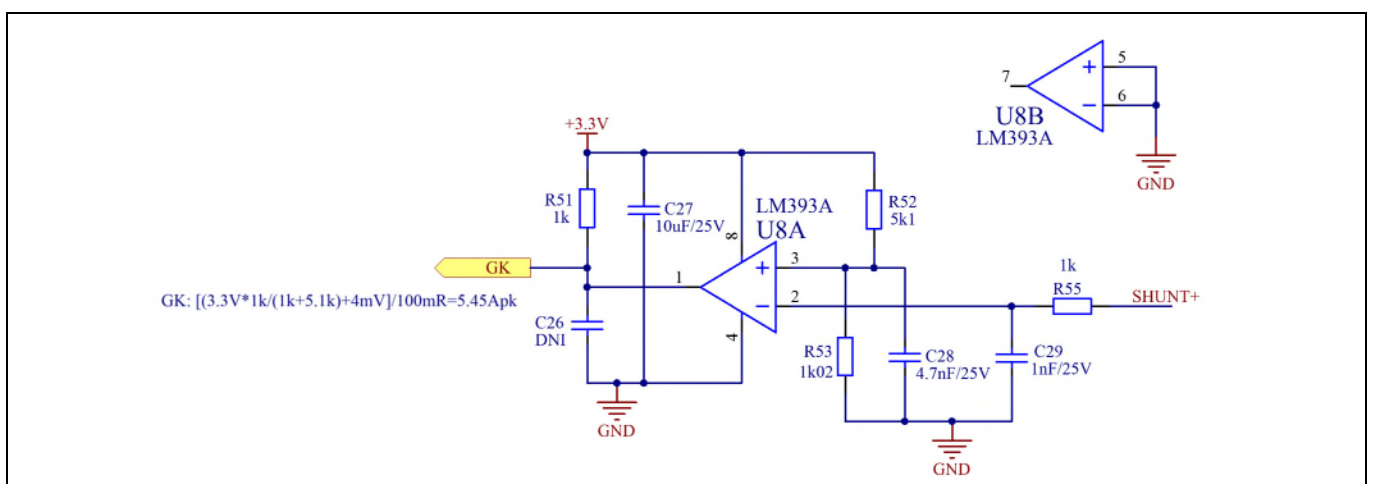

Figure 10 OCP circuit
The overcurrent protection (OCP) function is necessary for motor drive applications. As configured in Figure 10, the output of the comparator LM393A shall flip-flop low when the single-shunt current is over 5.45 A. The generated gate kill (GK) signal is sent to the controller IC disabling all the gate driver PWM inputs to turn off the IGBTs.